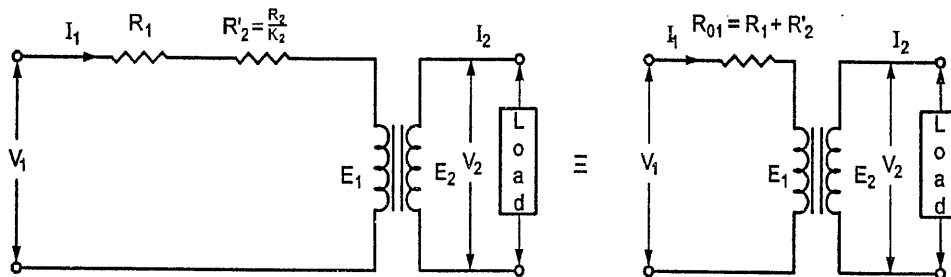

FIG. 3.23 : EQUIVALENT RESISTANCE TRANSFERRED TO THE PRIMARY SIDE
- Let the secondary resistance R_2 be transferred to the primary and the transferred resistance is R_2' . This is called equivalent resistance of secondary as referred to primary as shown in Fig. 3.23.